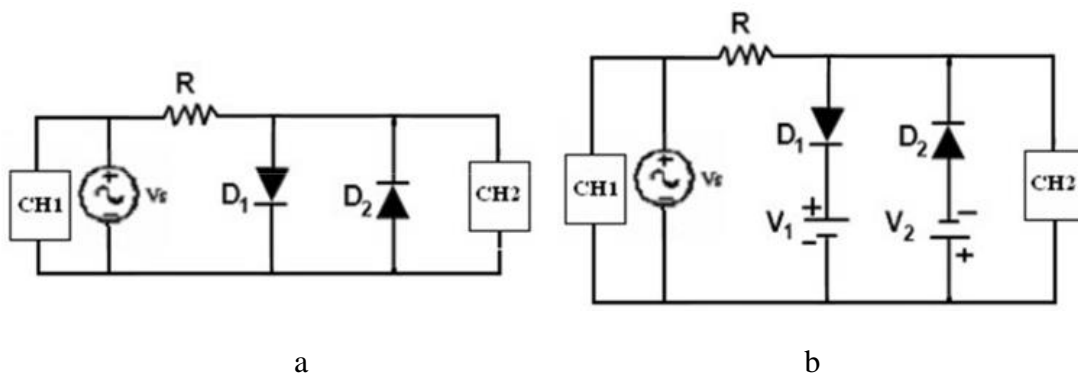

Figure 3.9: Dual clipper circuits
- 1- Construct the circuit shown in Figure3.9, where the supply  $V_s$  is sinusoidal signal with  $8V_{pp}$ ,  $100Hz$  and  $R=1k\Omega$ .
- 5- Switch OFF the Function Generator, and insert two DC power supplies  $V_1 = V_2 = 2V$  as shown in Figure 3.9 b (To avoid any problems and short circuits, connect the branch of  $D_1$  in series with  $V_1$  somewhere on the breadboard, connect the other branch of  $D_2$  in series with  $V_2$  in another place, then connect both branches in parallel). Switch On the DC supplies and the Function Generator then repeat step 3.
**Dual Clipper of figure 3.9 a**
**Dual Clipper of figure 3.9 b**